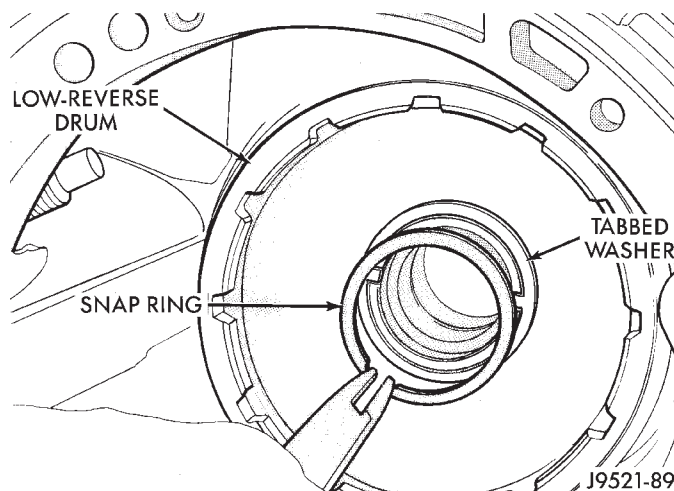

Fig. 128 Low-Reverse Drum Snap Ring
(4) Install thrust washer in low-reverse drum spot-face (Fig. 128). Use petroleum jelly to hold washer in place.
(5) Install snap ring that secures low-reverse drum to piston retainer hub (Fig. 128).